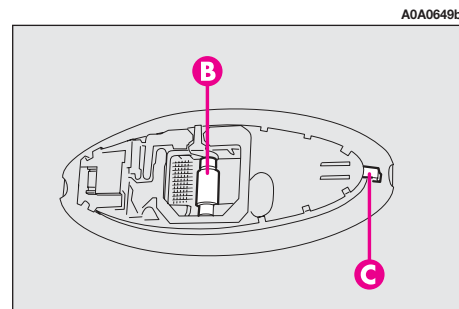

fig. 48
– Replace the bulb (**B-fig. 48**) releasing it from the side contacts, making sure that the new bulb is correctly clamped between the contacts;